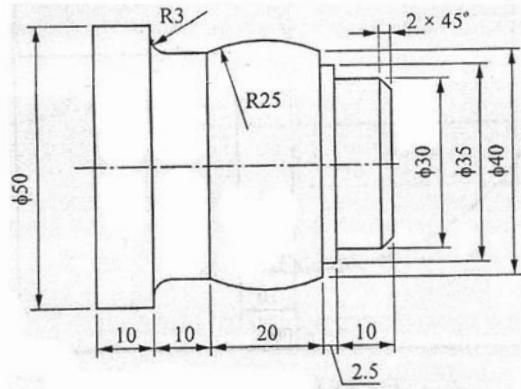

Fig. 2
b) Write CNC program using G and M codes to turn the component shown in fig. 2 having Stock size is ϕ 50mm. Use canned cycles wherever applicable. Assume suitable data for speed and feed. [10]